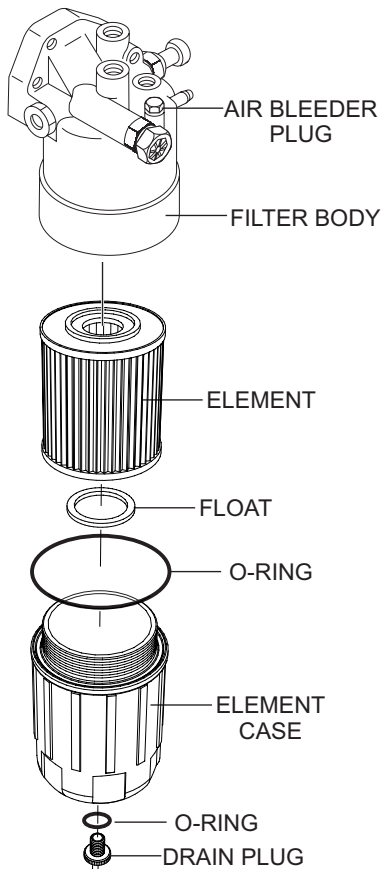

Figure 123. Fuel Filter Replacement
1. Using a filter wrench, remove the **element case** from the **fuel filter body** (Figure 123).
2. Wipe the inside of the **filter body** (Figure 123) with a clean cloth to remove any foreign matter or debris that may have accumulated.